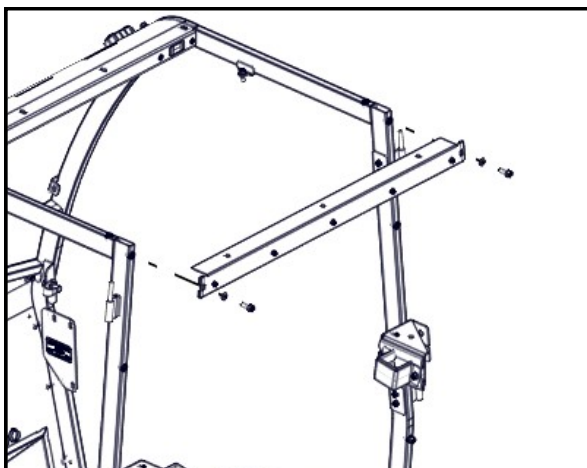
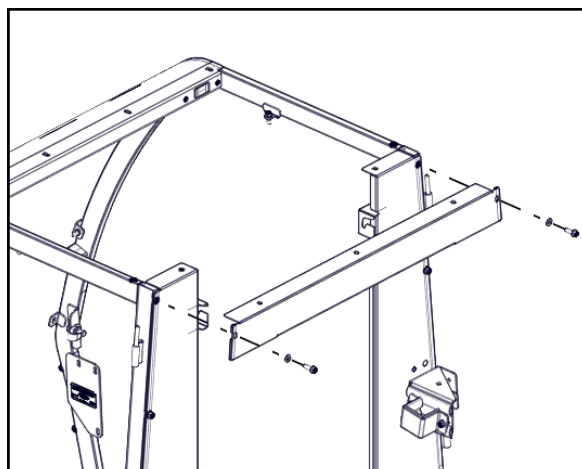

Fig. 13.1a (Rear Panel Header Installation - ST)
Fig. 13.1 (Rear Panel Header Installation - PR)
**13.1** Set the rear panel header in place and start two bolts with plastic washers in the rear panel header. See Fig. 13.1 for Premium Cab and Fig 13.1a for Standard Cab.